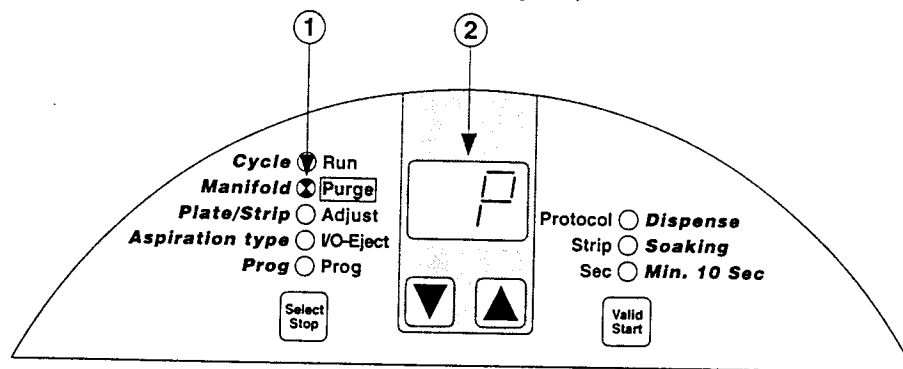

Fig. 17 Display of request for Priming
Priming with Wash solution is possible. In Purge mode, Press the  or  keys to have the letter (P) displayed. Display (Fig. 17) is as follows :